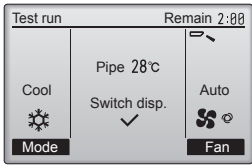

Fig. 6-6
- ① Press the **[F1]** button to go through the operation modes in the order of "Cool" and "Heat". (Fig. 6-6)
- ② Press the button and open the Vane setting screen.